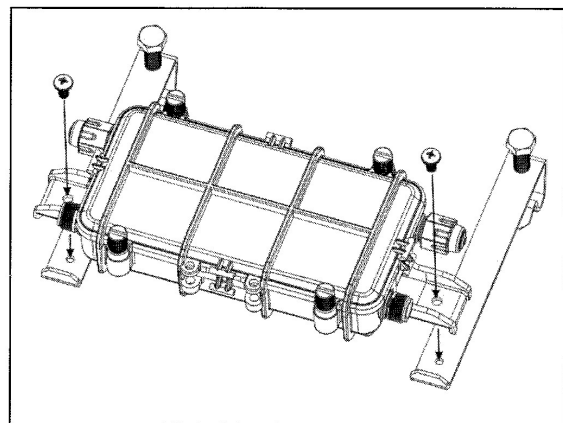

Figure 7. Strand mount kit installation
- ① Attach the brackets to the enclosure as shown in Figure 7.